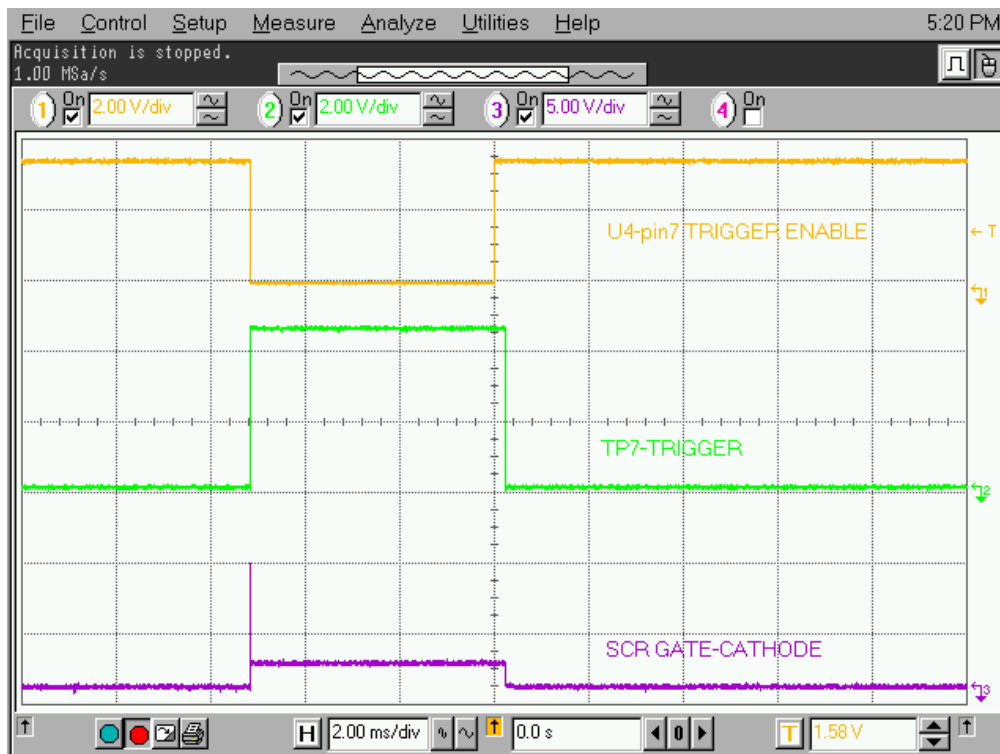
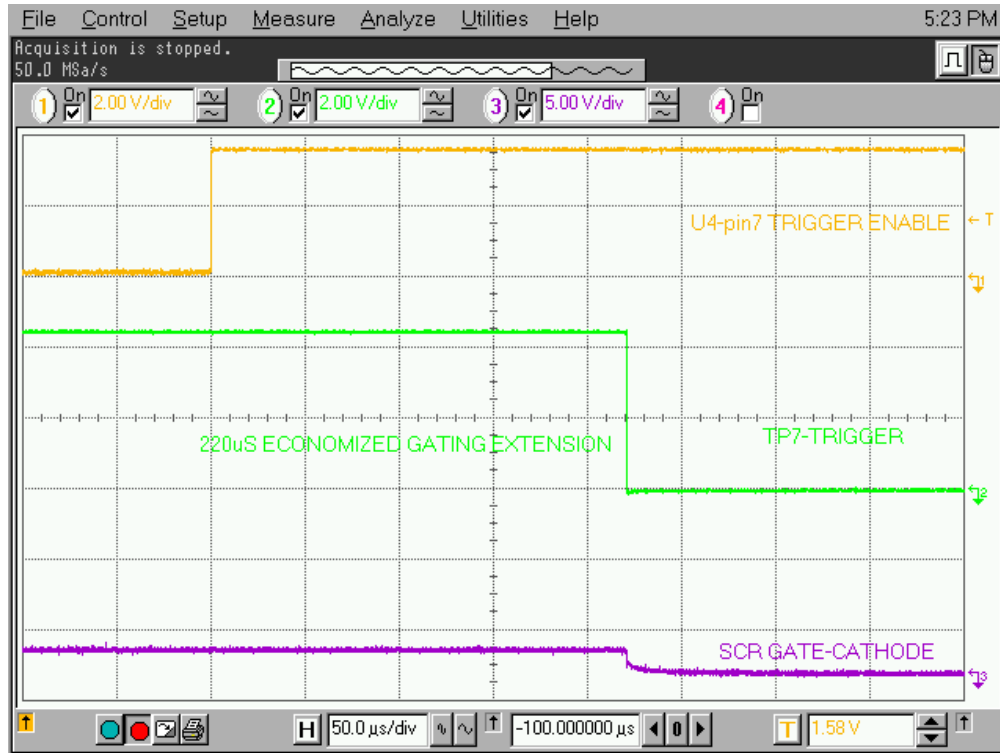

Figure 6.38 – V Sense Trigger to SCR gating pulse
Figure 6.39 – Expansion of V Sense Trigger to SCR gating pulse
22. Apply a 60 Hz, 33% duty cycle signal, at a 0 to +2V level, between the TB1-2 input and COM. Verify the signals in Figures 6.38 and 6.39. Note that in Figure 6.39 there should be a 220 μ S, +/-20 μ S time between the rising edge of the U4-pin7 pulse and the falling edge of the TP7 signal.